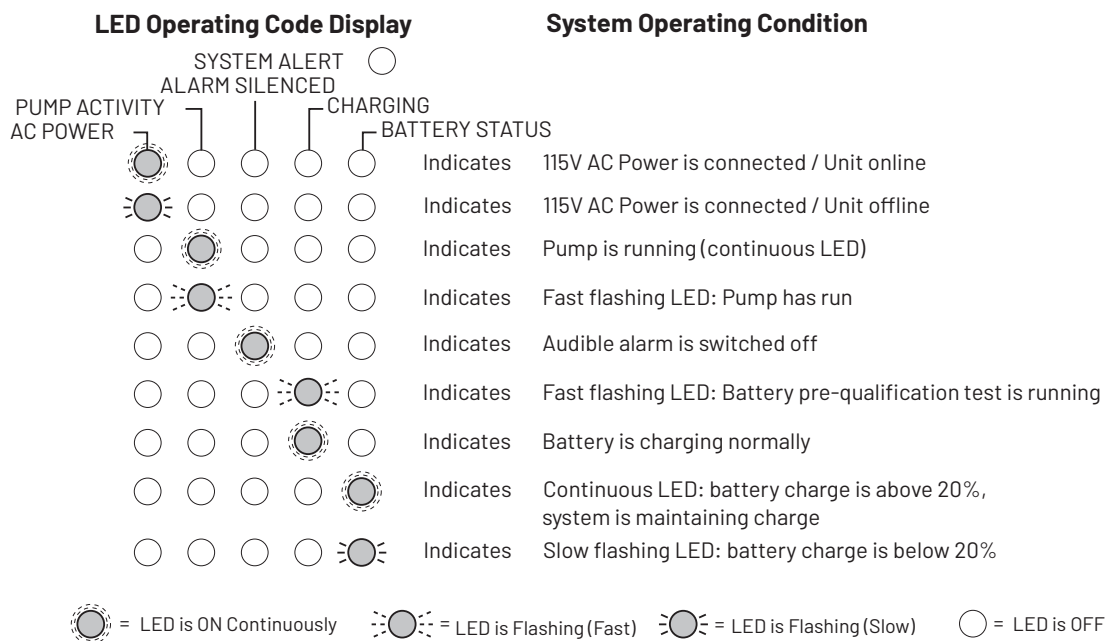

Figure 6: Operating Code Displays (LEDs Lighted Continuously or Flashing)
- ◆ When the System Alert light IS NOT flashing, refer to Figure 6.